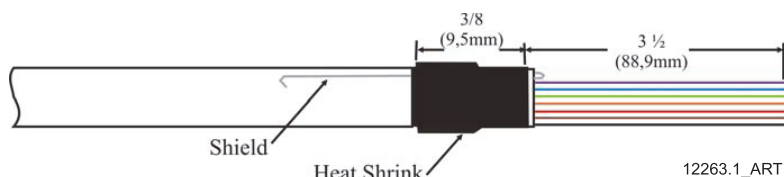

Figure 4-12: Seven-Conductor Control Head Cable Shield Wire and Heat-Shrink
- H Pull the Shield wire back against the PVC jacket and slide and shrink a piece of 3/8 inch W. X 1 inch L. heat-shrink over the cable as shown in Figure 4-12: Seven-Conductor Control Head Cable Shield Wire and Heat-Shrink